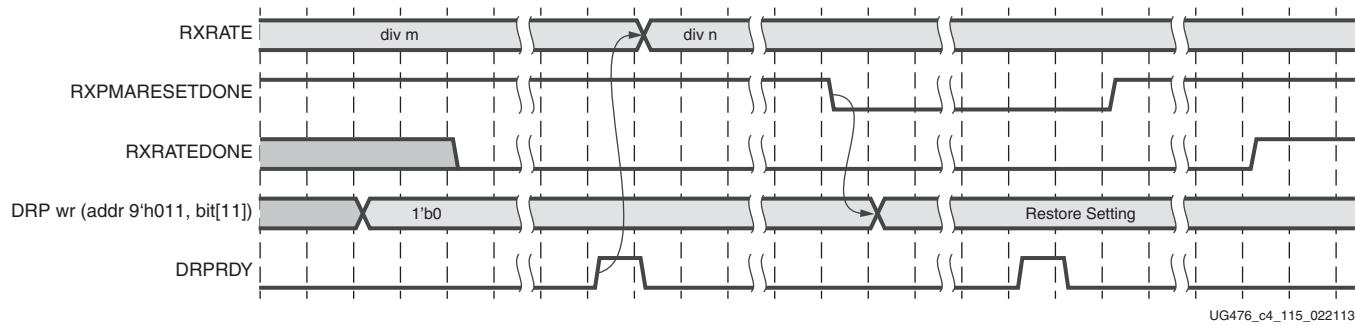

Figure 4-23: RXRATE Change Example
When users want to change the divider D setting via RXRATE, the steps in Figure 4-23 should be performed if the GTH transceiver is changing into a configuration as follows:
Notes relevant to Figure 4-23:
2. The sequence of events in Figure 4-23 is not drawn to scale.